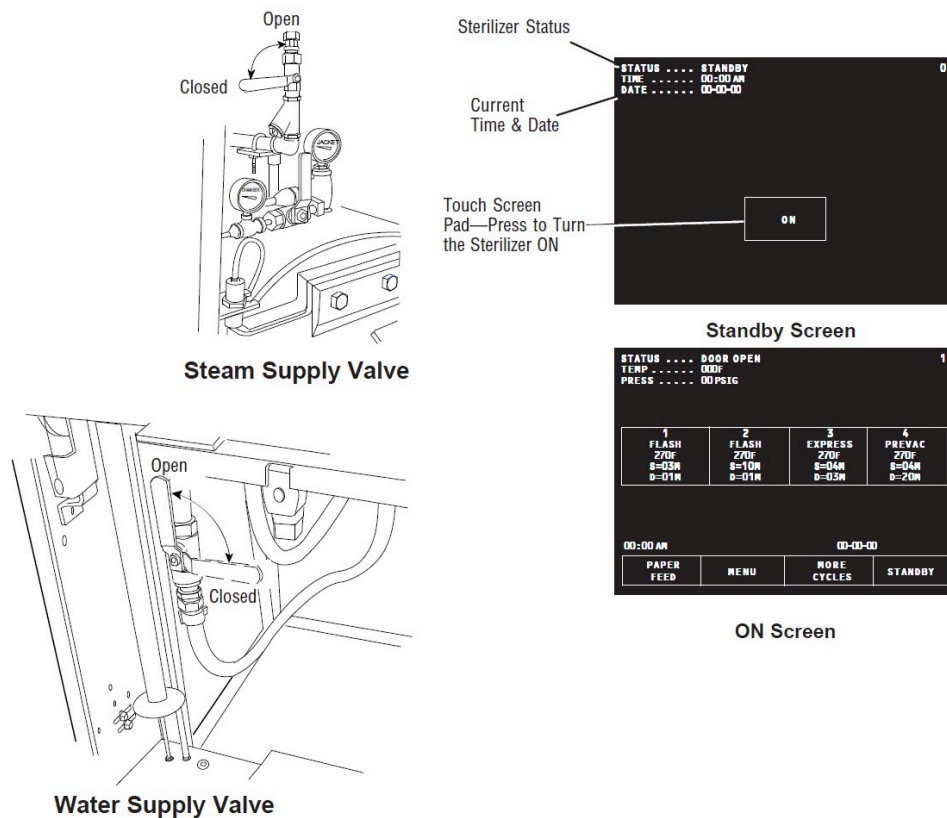

Figure 3-2. Main Sterilizer and Cycle Controls
- Steam Supply Valve – This is located behind the front access door, above the chamber door. Refer to Figure 3-2. Ensure this is in the open position before trying to operate the sterilizer.
- Water Supply Valve – This is located behind the front access door, below the chamber door. Refer to Figure 3-2. Ensure this is in the open position before trying to operate the sterilizer.
- Sterilizer Control Touch Pad – This is visible on the control touch screen whenever the sterilizer is in Standby mode. Refer to Figure 3-2.